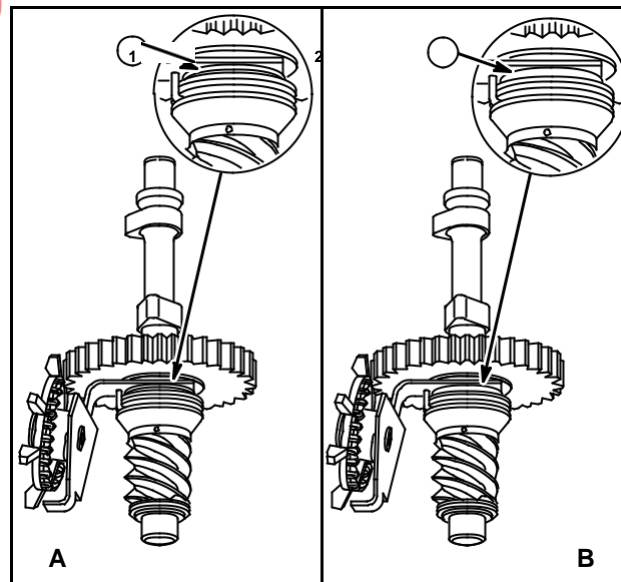

Fig. 53
Early production cam gears (A) has a groove (1) on the clutch, Fig. 53, are serviced as an assembly consisting of cam gear oil slinger, clutch hub, clutch spring and clutch sleeve assembly. Later production cam gears (B) eliminate the groove (2), and are serviced as individual parts except for the cam gear which consists of cam gear, oil slinger and clutch hub.